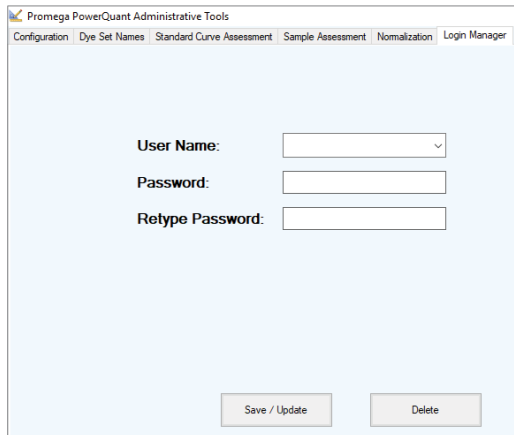

Figure 62. The 'Login Manager' tab.
1. To create a new Admin user, select the 'Login Manager' tab in the 'PowerQuant Administrative Tools' window (Figure 62).